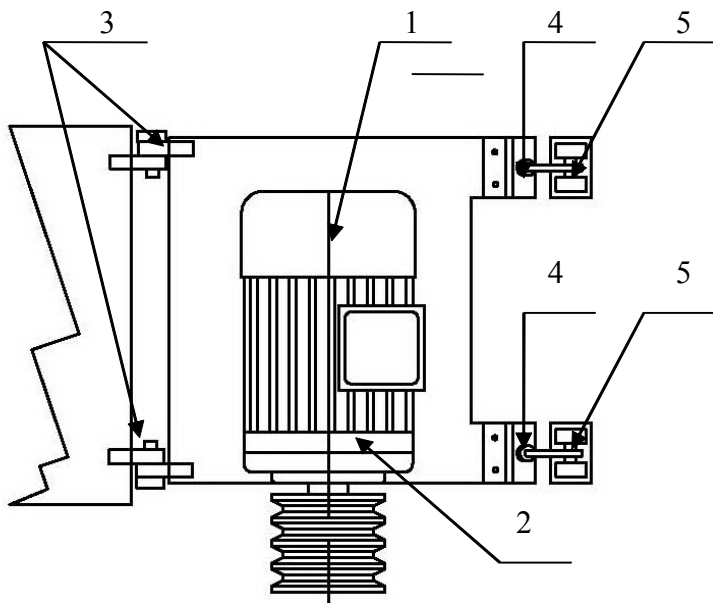

Fig. 5-2 High-speed motor
There are 5 areas on high-speed motor of knife shaft which shall be lubricated periodically. Front and rear bearing on main motor (1 and 2 in Fig.5-2) shall be lubricated with calcium-sodium-matrix grease with 2/3 cavity filled in every 3000 operating hours. Surfaces of sliding bearing (3 and 5) and of tension bolt (4) on main motor frame shall also be lubricated with calcium-sodium-matrix grease every 3 months so as to avoid corrosion.